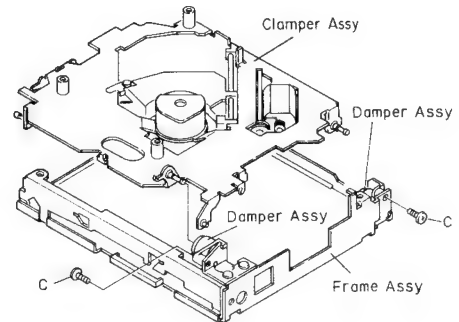

Fig. 12
7. Remove the frame assy from the mechanical parts.(Fig. 12)
8. Remove the two screws C , and then remove the damper assy.(Fig. 12)
9. Remove the clamper assy as shown in Fig. 12.